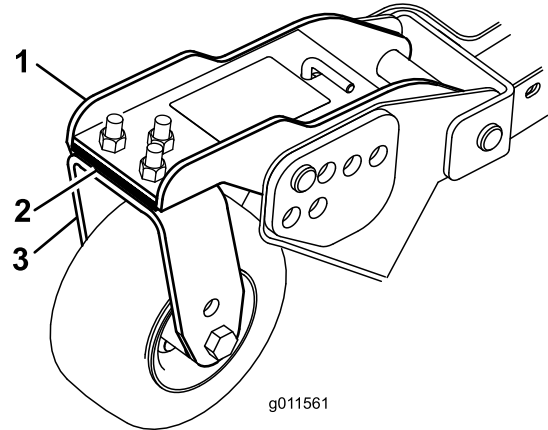

Figure 33
3. Adjust the shims (3 mm or 1/8 inch) on front caster arm(s) to match the height-of-cut decal (Figure 33).
3. If the inside edge of the side cutting unit is too high relative to the outside edge of the front cutting unit, remove a shim from the bottom of the front, inside caster arm on the side cutting unit (Figure 33).